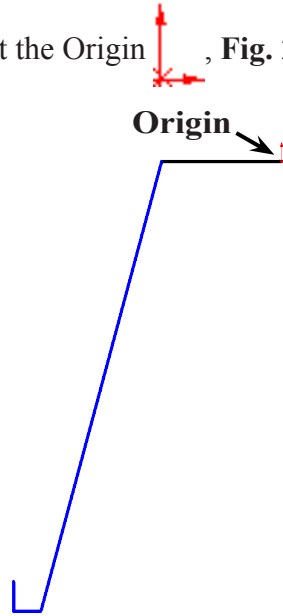

Fig. 2
Step 3. Click **Line**  (L) on the Sketch toolbar.
Step 4. Draw the wire sweep path starting at the Origin , **Fig. 2**.